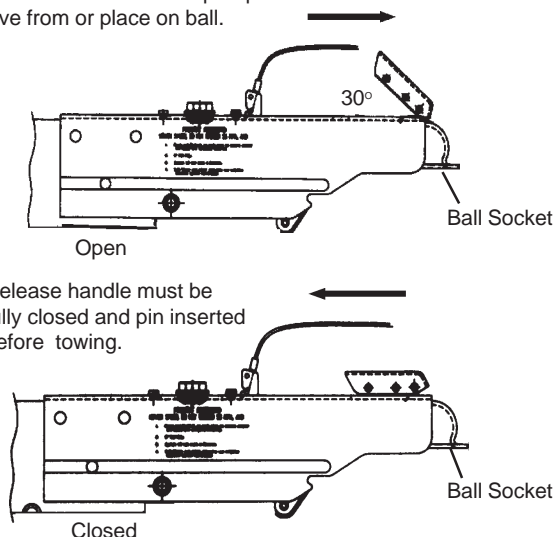

Figure S6: Surge Brake Actuator & Coupling Assembly
For boat models with the Surge Brake Actuator and Coupling Assembly shown in Figure S6, lift the release handle to unlock the coupler. Push down on the release handle/locking lever to lock the trailer to the ball hitch. The locking pin, provided with the trailer, or a padlock **must be inserted** in the locking lever hole. This ensures the the coupler's locking lever remains in the locked position during towing of the trailer. Refer to Section S-3 Operation for additional information on couplers and hitching to the tow vehicle.
2. Lift up on release handle fully (approximately 30° for a trailer with brake actuator and coupler assembly) to allow the ball latch to rotate open. The handle will remain up to indicate that it is not yet attached to the ball. See Figure S6.